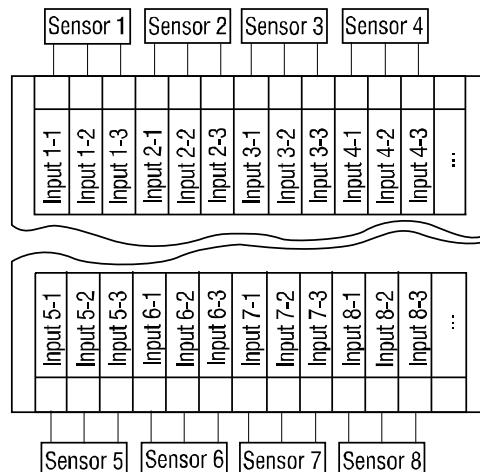

Fig. 4.2 Input connections
- The inputs should be wired in accordance with Fig. 4.2...4.8.